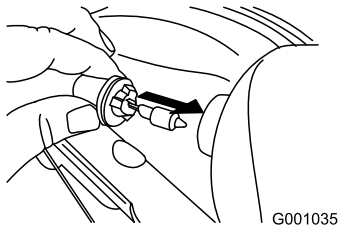

Figure 65
- Insert a new bulb into the back of the headlight (Figure 65).